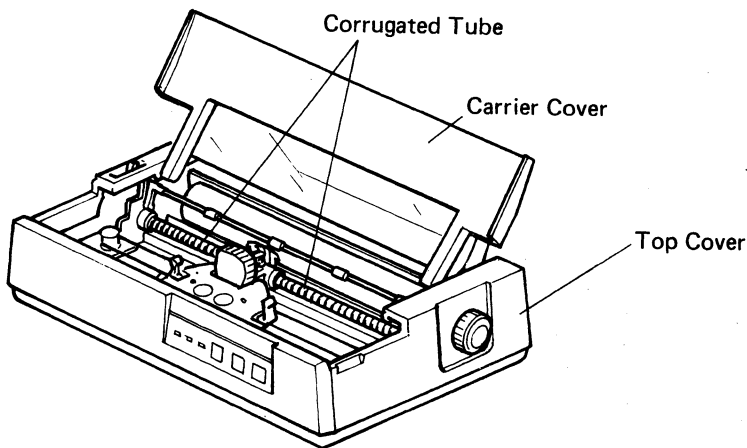

Fig. 3 Unpacking (3)
- Open the carrier cover. Then remove the corrugated tube that is provided to retain the head. (See Fig. 3.)